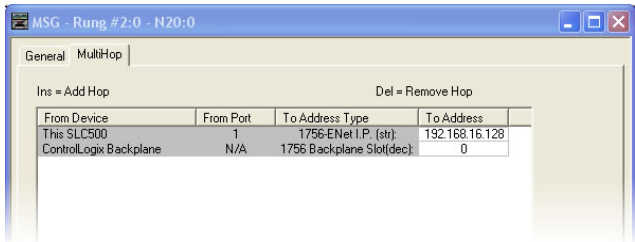

Figure 113: MSG Configuration, "MultiHop" Tab
- e) Under the “MultiHop” tab settings, set the “To Address” in the first row to the inverter’s IP address, and the “To Address” in the second row to 0. Refer to Figure 113.